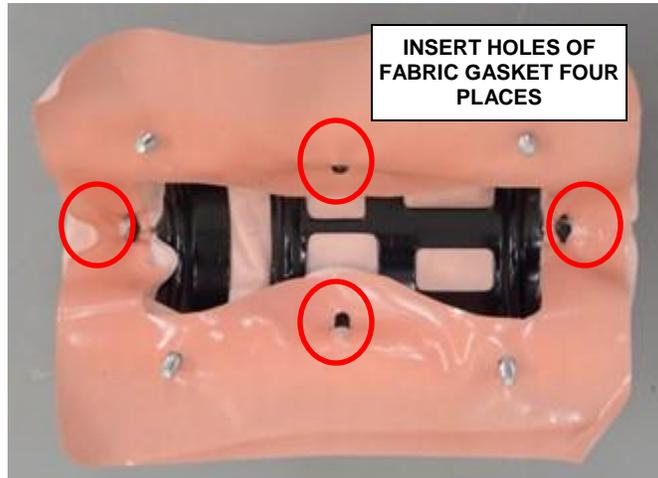

Figure 55 – Fabric Gasket
- j. With the help of a trim tool insert the holes of fabric gasket, four places (Figure 55).